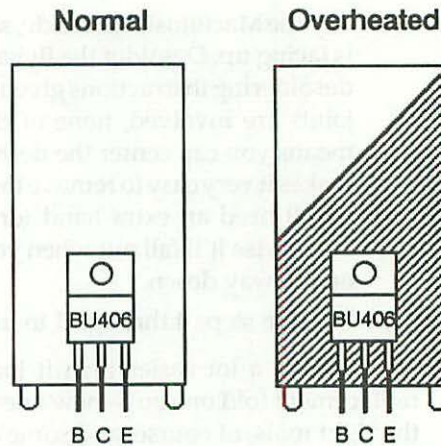

Figure 5-17 Reddish blue metal is a sure sign of overheating.
If you've got severe display distortion, wavy lines, if everything is getting darker and darker, T1 has shorted, and high current is being drawn through Q3 (INTERNATIONAL Q2). In that case, Q3 will have to be changed along with T1, even if by some miracle, Q3 still tests good. But if you only had jittering, ringing, or ozone smell (no severe distortion), Q3 will probably be OK. Whether or not you have to change Q3 depends on how soon you detect the flyback problem. As shown in Figures 5-5 and 5-7, Q3 is located at the top of the analog board, two components to the right of C1 and one component down. It's a TO-220, generic BU-406 power transistor (7 amperes, NPN silicon, 60 watts) attached to a large heat sink. If the circuit board underneath the heat sink is burned, or if the heat sink has turned reddish blue as shown in Figure 5-17, don't waste time with the following test procedure. Either sign is positive proof that the Q3 will have to be changed.
3. Turn on your multimeter and set it to the $R \times 100$ scale. Refer to Figure 5-17 and Tables 5-5 to 5-6 to test the part.
If the heat sink metal appears reddish blue as illustrated in Figure 5-17, shine it on a wire wheel, or use some metal polish on it. You want the surface of the heat sink to be as smooth and shiny as possible. That way, the new heat sink grease won't have to work as hard. Also, you don't want to give a false impression to the next owner. If someone looks in there later and sees a reddish blue heat sink, the person's going to suspect that Q3 has failed again, when in fact, you never cleaned up from the last time.